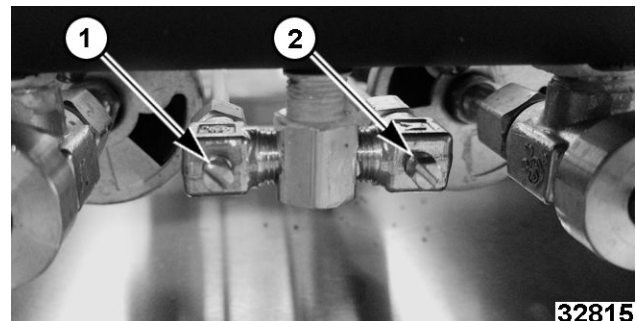

Fig. 129
3. Locate pilot adjustment screw (1-Rear, 2-Front, Fig. 129).